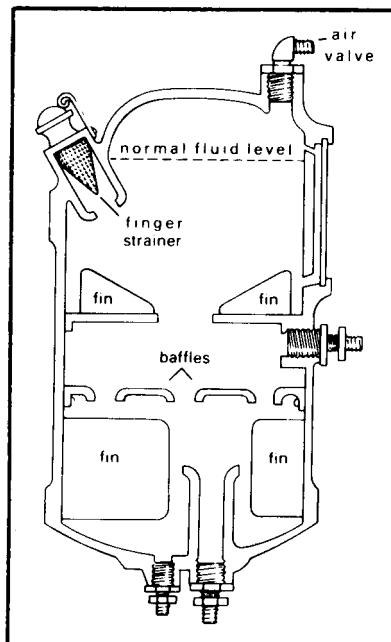

**Figure 4-2. Hydraulic reservoir pressurized with fluid.**
**Fluid Method.** This method uses the fluid pressure bled from the pressure lines of the system in which the reservoir is incorporated. The reservoir is designed to develop a relatively low pressure on the supply fluid contained in the reservoir by using a stream of fluid fed into the reservoir at a much higher pressure. This reservoir is commonly called an airless reservoir. Figure 4-1 illustrates the construction and operation of a typical reservoir pressurized in this manner. The major parts of the assembly are a cylindrical housing that has three fluid ports and a polished bore, a housing tube which terminates in a head, a piston, and a piston-tube assembly. The piston and piston-tube assembly are free to slide in and out of the housing. The housing tube and head are stationary. In operation, fluid pressure admitted to the housing tube at system operating pressure--for example, at 3,000 psi--enters the space formed between the piston and the housing-tube head. This pressure tends to force the piston and housing-tube head in opposite directions. However, since the housing-tube head cannot move and the piston can, the piston moves toward the right, pushing against the supply fluid on its right, which develops pressure in the fluid. The surface of the housing tube is exposed to 3,000-psi pressure within a space that is one-sixtieth as large in area as the piston surface that contacts the supply fluid. This means that a pressure of 50 psi (3,000 psi divided by 60) is built up in the supply fluid. (See Figure 4-2.)